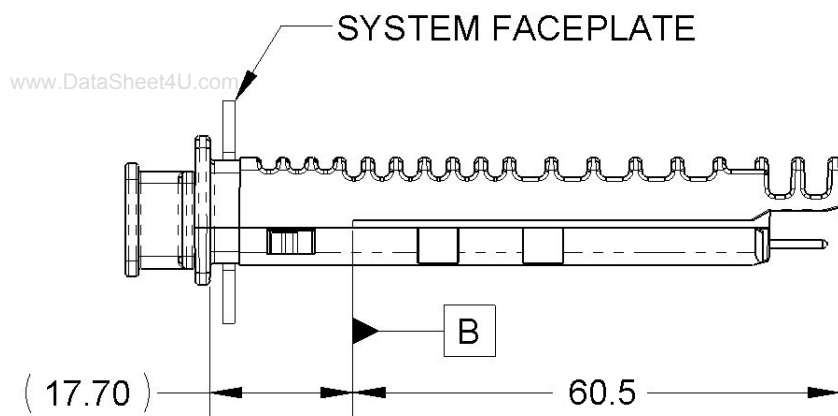

Figure 7. Mechanical Dimensions
1. All module and PCB pad dimensions are per X2 MSA Revision 2.0b unless otherwise noted in Figure 7.